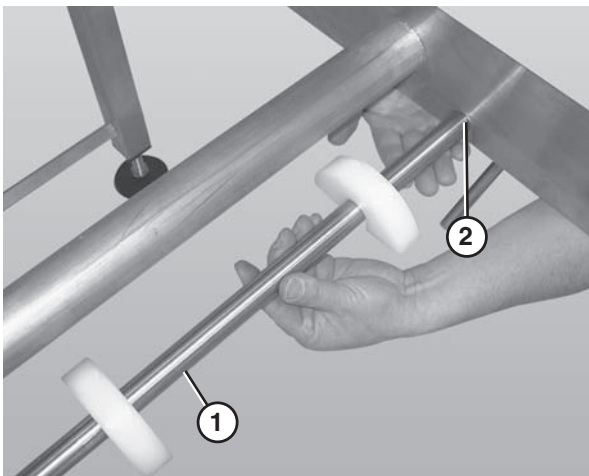

Figure 58
1. Remove the pull pins (**Figure 58, item 1**) on the tension end of the conveyor to release tension on the belt.
1. Remove the belt returns by pushing up on the return shaft (Figure 58, item 1) and sliding it through the large hole (Figure 58, item 2) in the frame.
2. Lower the opposite end of the return shaft (Figure 58, item 1) and slide it out of the frame.